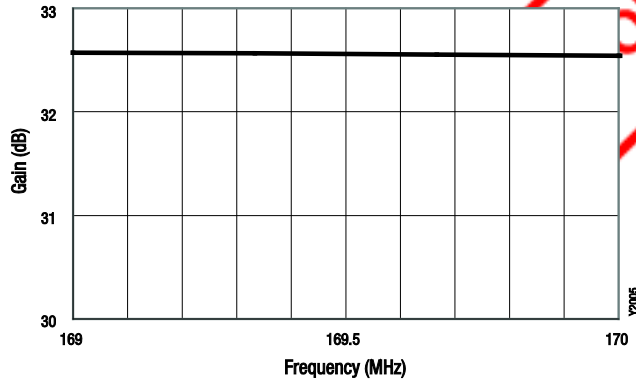

Figure 5. Small Signal Gain vs Frequency
- Metal Layer 2 = Solid ground plane. No traces routing. Use vias to ground under the FEM as recommended in Figure 5.
- Metal Layer 2 = Solid ground plane between the transceiver and the FEM up to the antenna, no traces routing in that area. Use vias to ground under the FEM as recommended in Figure 5.